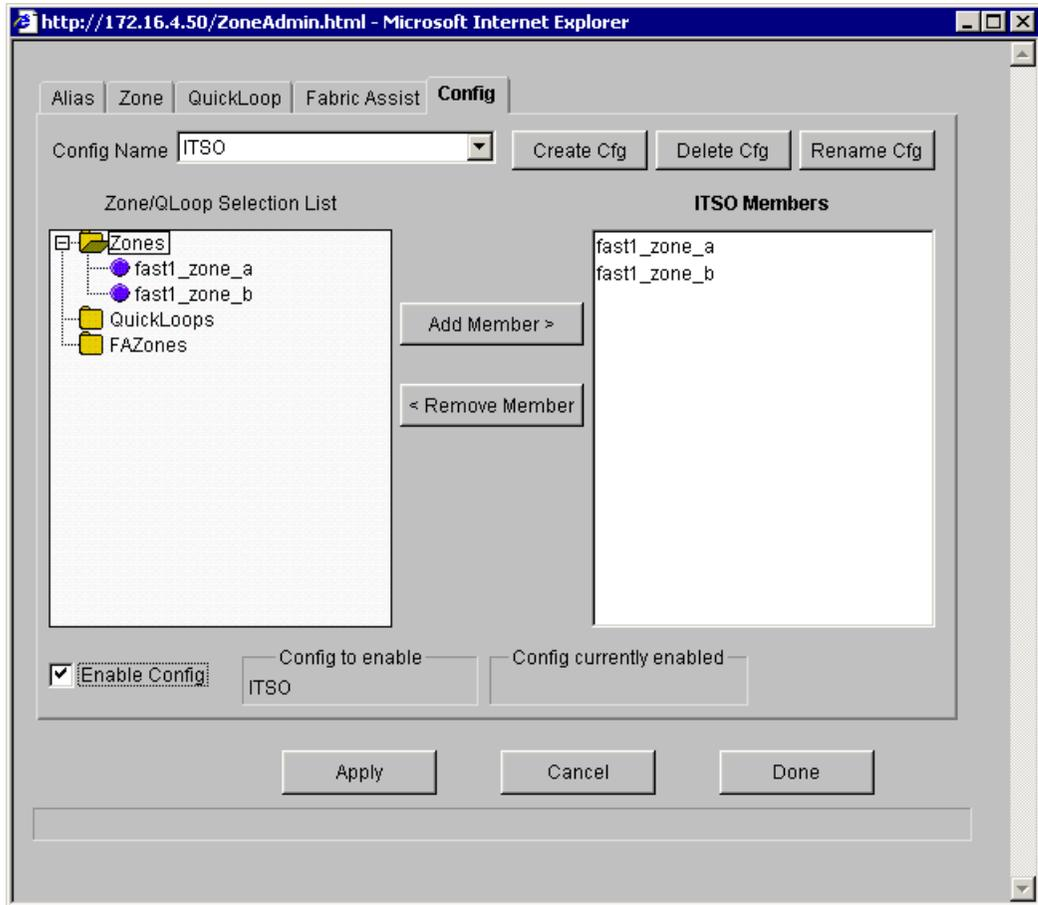

Figure 4-18 SAN configuration enabled
5. Now that you have a configuration, it needs to be enabled. Check **Enable Config** as shown in Figure 4-18: